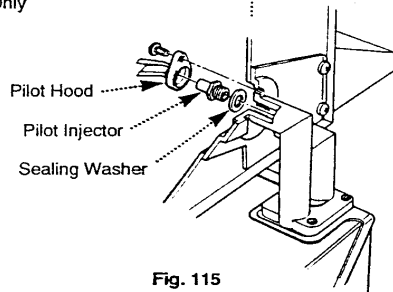

Fig. 115
**10.12 Pilot Burner Injector (Fig. 115)**